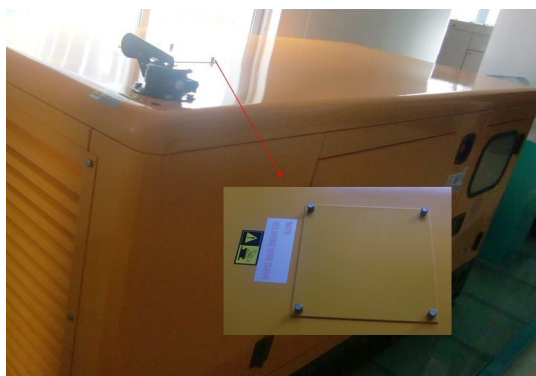

Fig.3-1
- The cooling system is normal, the water tank is full (if not, add water from the water inlet, as shown in Fig.3-1. The water added must be cooling liquid);